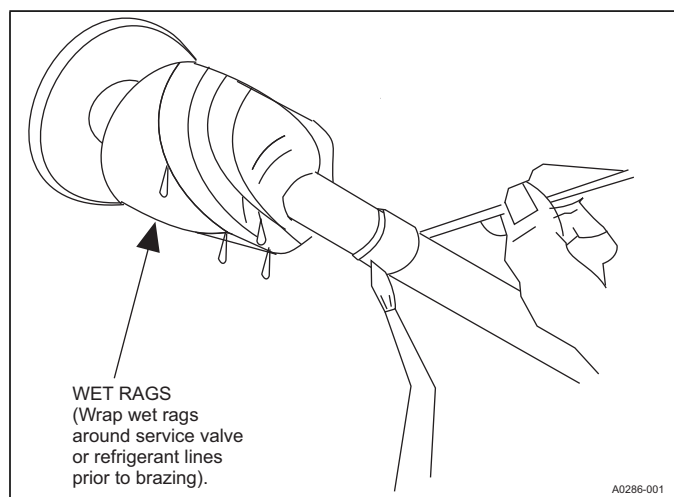

FIGURE 5: Heat Protection
Precautions should be taken to prevent heat damage to service valve by wrapping a wet rag around it as shown in Figure 5. Also, protect all painted surfaces, insulation, and plastic base during brazing. After brazing, cool joint with wet rag.
7. Slide the grommet away from the vapor connection at the indoor coil and wrap with a wet rag as shown in Figure 5. Braze the vapor line to the evaporator vapor connection. After the connection has cooled, slide the grommet back into original position. After this connection has cooled, remove the nitrogen source from the liquid fitting service port.